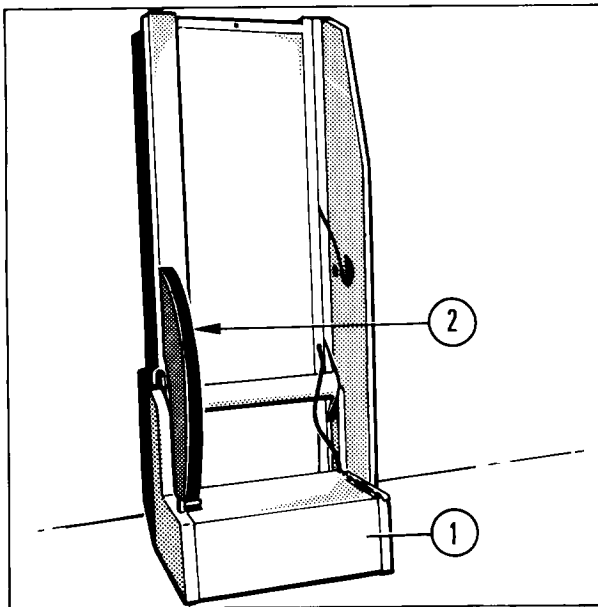

Fig. 10
- Remove the trim cover (Fig.10/item 1) from the table base.
- Take off segment cover (Fig. 10/item 2).